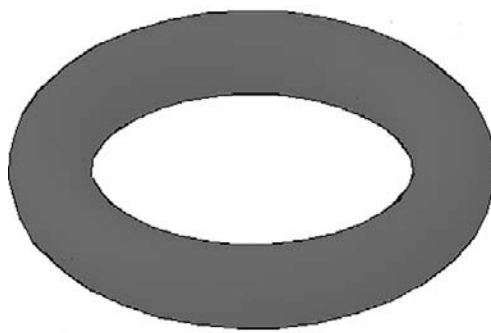

FIGURE 22.6
- Step 4.** Drag your mouse (or enter a value) and the torus shape is automatically extruded, as seen in Figure 22.6.